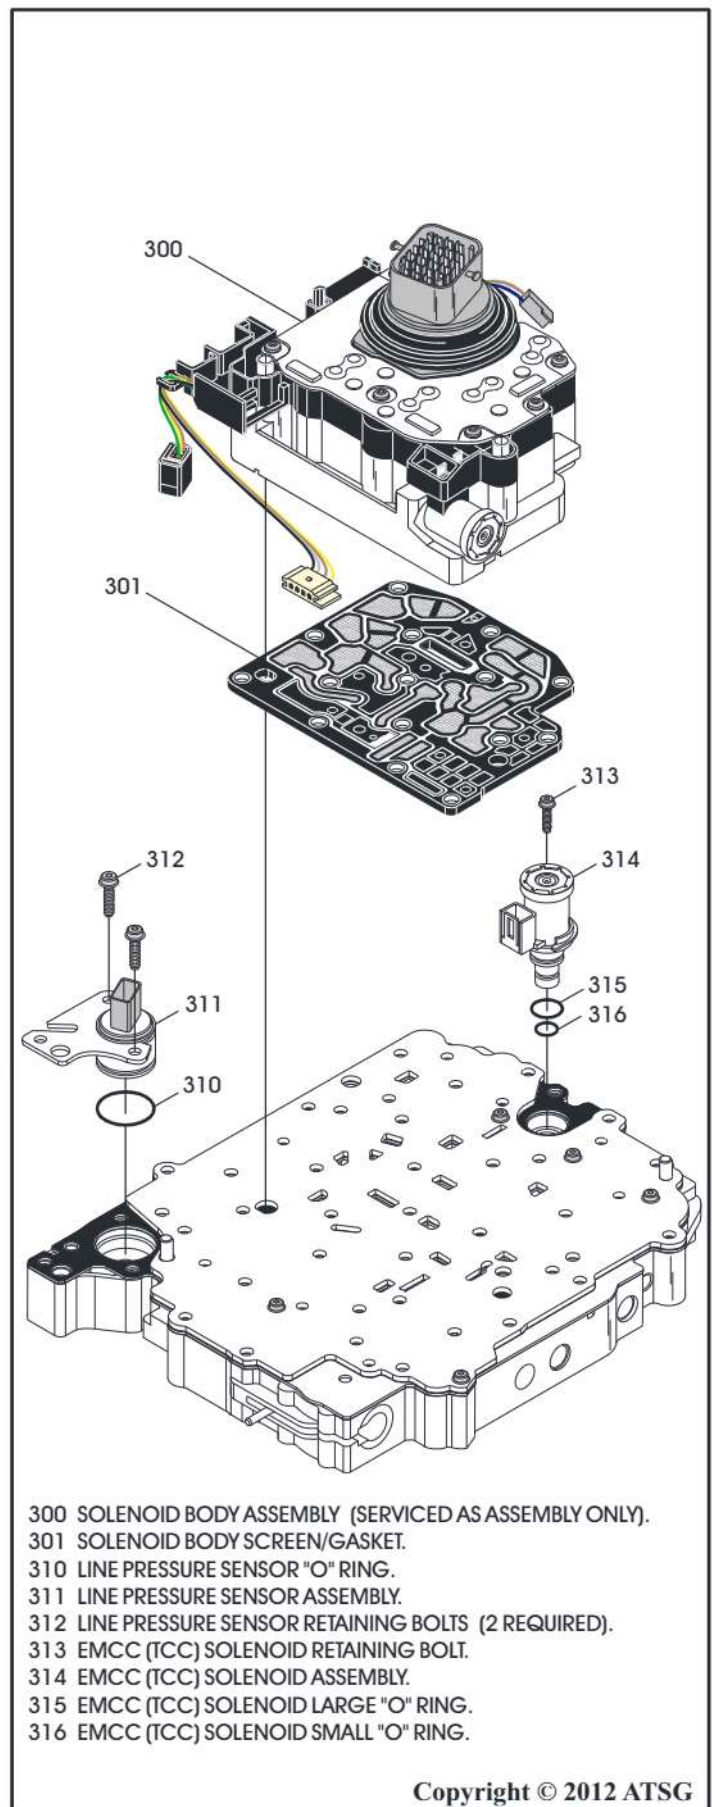

Figure 212
5. Carefully turn the valve body assembly over, as shown in Figure 212.
6. Disconnect the EMCC (TCC) solenoid and the line pressure sensor, as shown in Figure 212.
7. Remove the complete solenoid body and the solenoid body gasket/screen assembly, as shown in Figure 212.
8. Remove the EMCC (TCC) solenoid retaining screw and solenoid, as shown in Figure 212.
9. Remove and discard the two EMCC solenoid "O" rings, as shown in Figure 212.
10. Remove the two line pressure sensor retaining screws and sensor, as shown in Figure 212.
11. Remove and discard the line pressure sensor "O" ring seal, as shown in Figure 212.